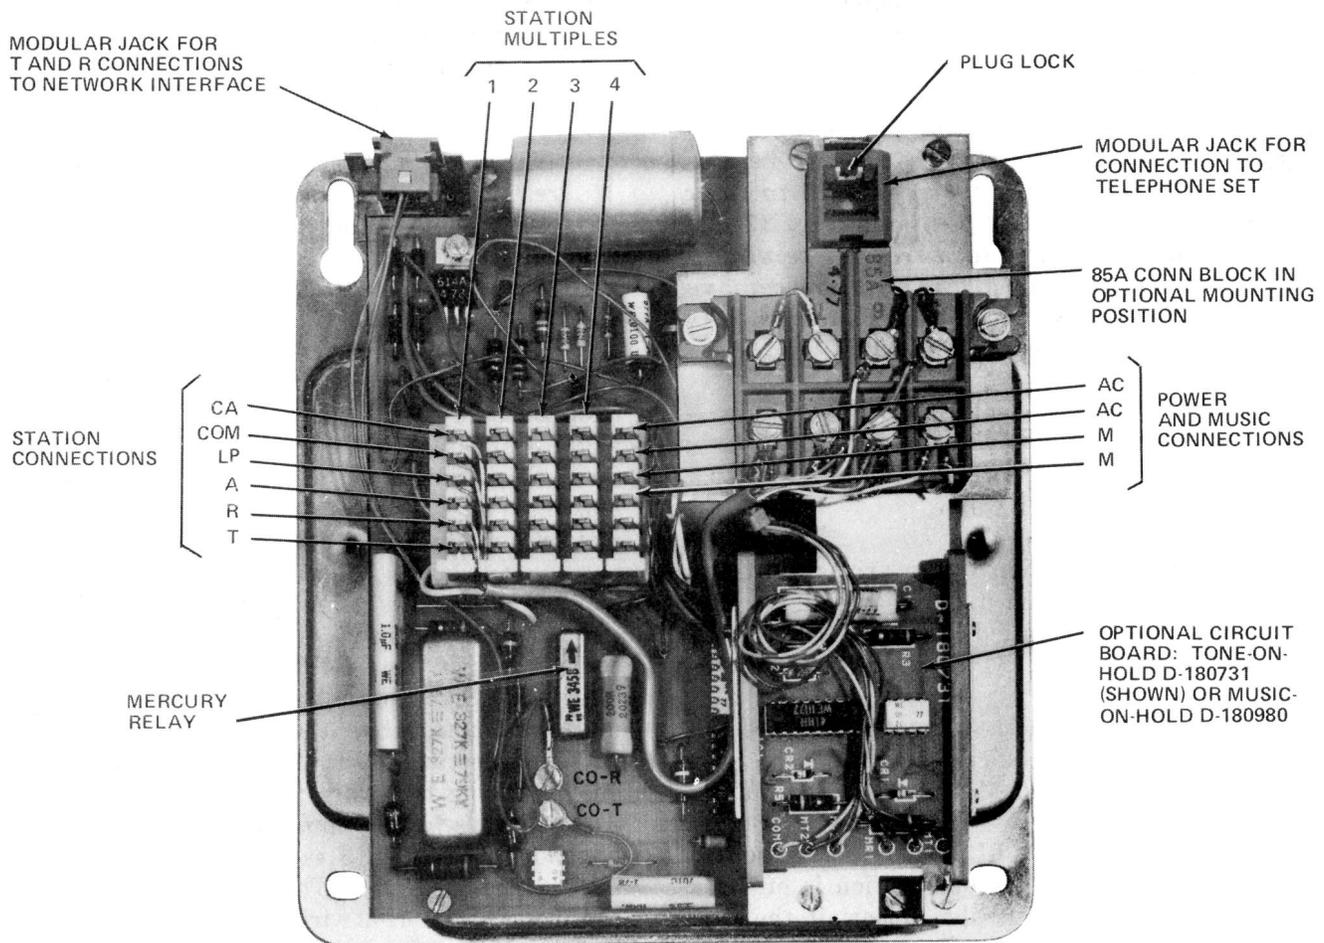

Fig. 38—30AM Apparatus Unit
**3.56** The method of installation and connection of this feature depends on the type of telephone with which the line is used. In all cases, a 30AM apparatus unit (Fig. 38) must be installed for each personal line; a single 30AM can serve a maximum of 16 stations on the same line if the restrictions of Fig. 12 are observed.
and close to a suitable ac outlet. Remove the cover and mount the base pan assembly on a vertical surface so the mercury relay on the printed wiring board (Fig. 38) is in a vertical position as indicated by the arrow on the can.
the set, the 86A block can be disassembled as described in paragraph 3.58(d)(1) and its 85A block mounted directly on the 30AM unit (Fig. 38). Be sure that the white plastic plug lock is not removed from the modular jack of the 85A.